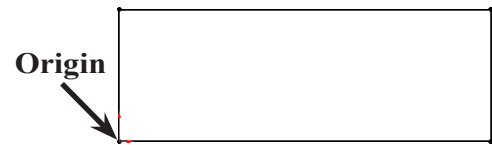

Fig. 2
Step 3. Click **Rectangle**  (S) on the Sketch toolbar.
Step 4. Draw a rectangle starting at the Origin , **Fig. 2**.
Step 5. Click **Smart Dimension**  (S) on the Sketch toolbar.